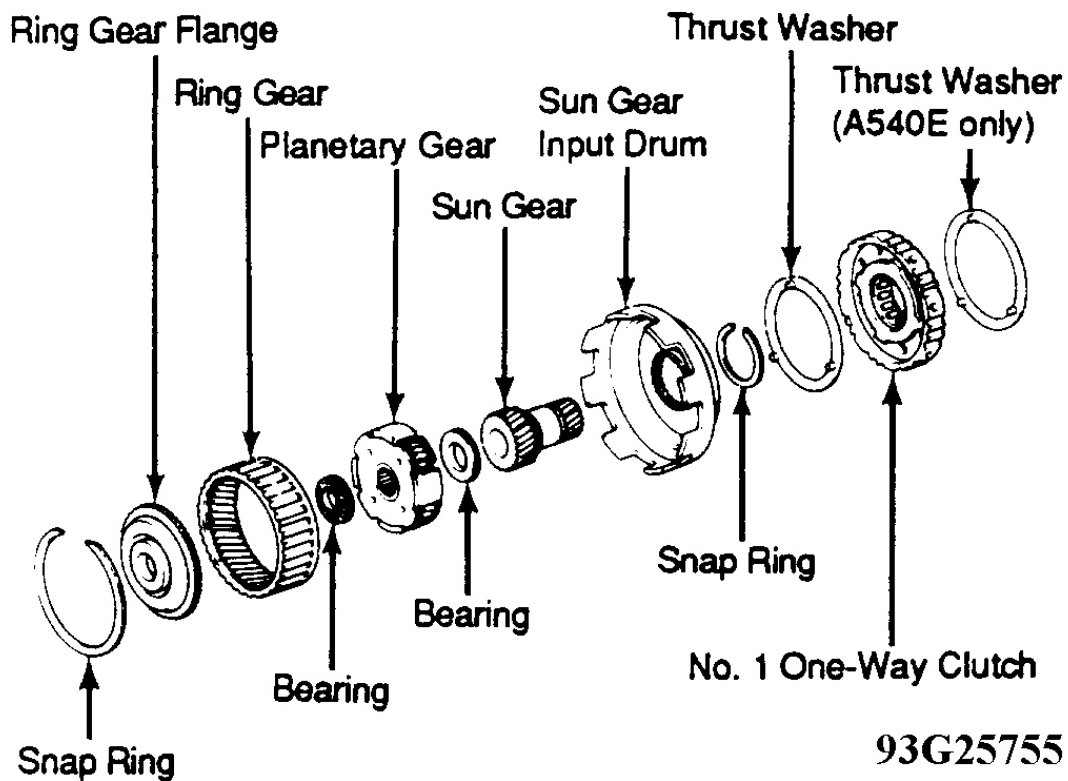

Fig. 24: Exploded View Of Front Planetary Gear
2. Turning hub clockwise, remove one-way clutch from sun gear. Remove thrust washer from sun gear input drum. Remove snap ring. Remove sun gear input drum. See **Fig. 24**.
1. Position flange into ring gear. Using a screwdriver, install snap ring. See **Fig. 24**.